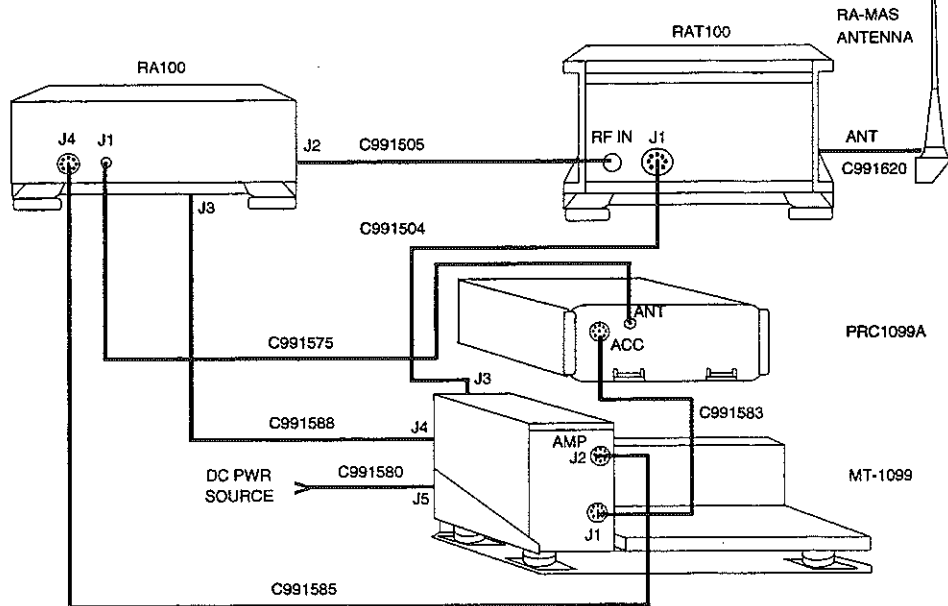

FIGURE B-9.
- a. The PRC1099A can be used in a mobile configuration with the RA100 power amplifier as shown in Figure B-9.
5. Hook up the correct cables as shown in Figure B-9.
Referring to Figure B-9, cable C991580 going between the vehicular power source and the MT-1099 must be replaced with cable C991614. This cable connects the MT-1099 to the UPS100.